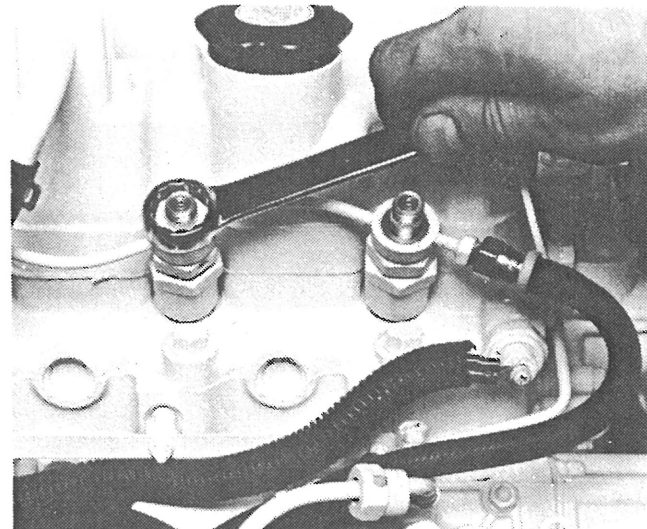

Figure 54 - Remove leak-off retaining nuts.
- Unscrew and remove the injectors (figure 54).